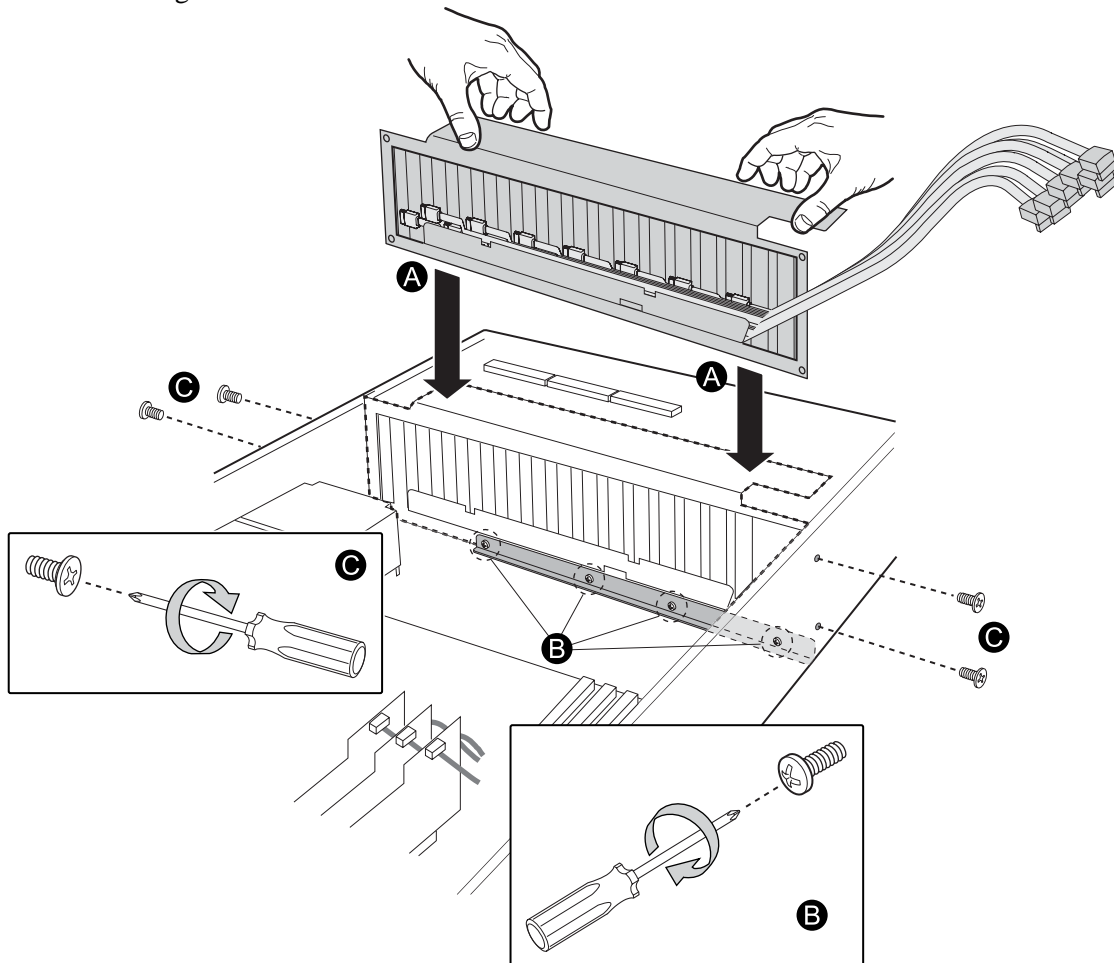

Figure 15. Installing the New Backplane Board in the System
- B. Align the screw holes on the steel lip with the screws holes on the backplane sheet metal shroud. Using a Number 1 size Phillips Screwdriver, screw in the four Phillips screws into the steel lip and backplane board until the backplane board is installed. See Figure 15.
- C. Align the screw holes on the side of the chassis with the screws holes on the side of the backplane board sheet metal shroud. Using a Number 1 size Phillips Screwdriver, screw in the two Phillips screws into each side of the system until the backplane board is installed. See Figure 15.